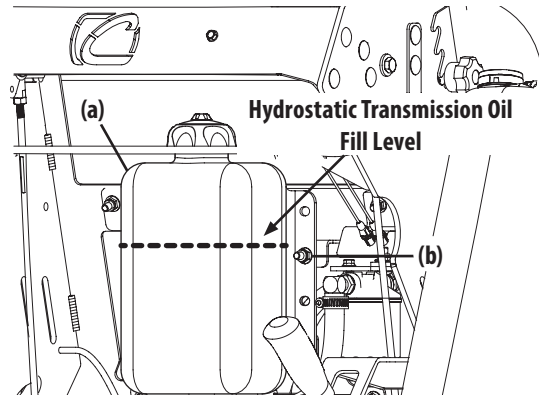

Figure 26
1. Locate the hydrostatic transmission oil reservoir (a) behind the engine under the control panel (Figure 26).
2. Ensure the hydrostatic transmission oil reservoir level is just above the upper reservoir mounting bolts (b) as shown in Figure 26.
7. Add hydrostatic transmission oil until the level is even with the upper reservoir mounting bolts (Figure 26 on page 22).